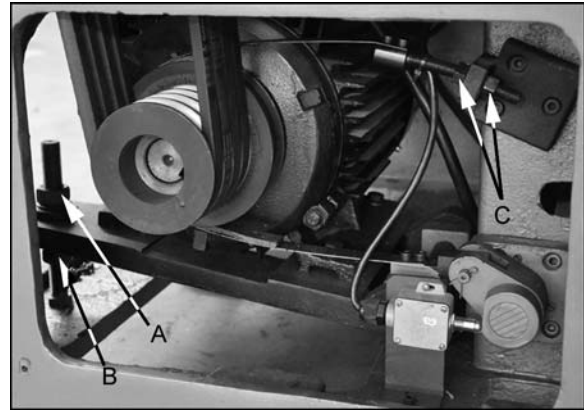

Figure 41 – Belt and brake strap adjustment
3. Loosen upper hex nut (A, Figure 41). Place scrap piece of wood under motor to act as lever. Lift motor up and block temporarily.
6. Tension belts by loosening lower nut (B, Figure 41) and tightening down upper nut (A, Figure 41) until light finger pressure causes approximately 3/4" deflection on each belt.
After the clutch is disengaged, the main drive can be stopped by the brake. If the spindle does not stop rapidly, the brake strap may need adjustment. Use the two adjusting nuts (Figure 41) to tighten the strap. Do not overtighten the strap, which can cause it to distort.